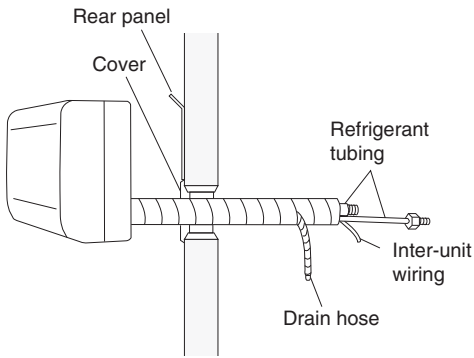

Fig. 3-60
(1) Shape the refrigerant tubing so that it can easily go into the wall hole. (Fig. 3-60)